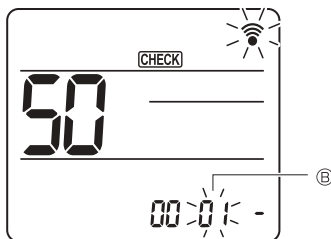

Fig. 3
Press the **[↓]** button to set Mode number ②. (Fig. 3)